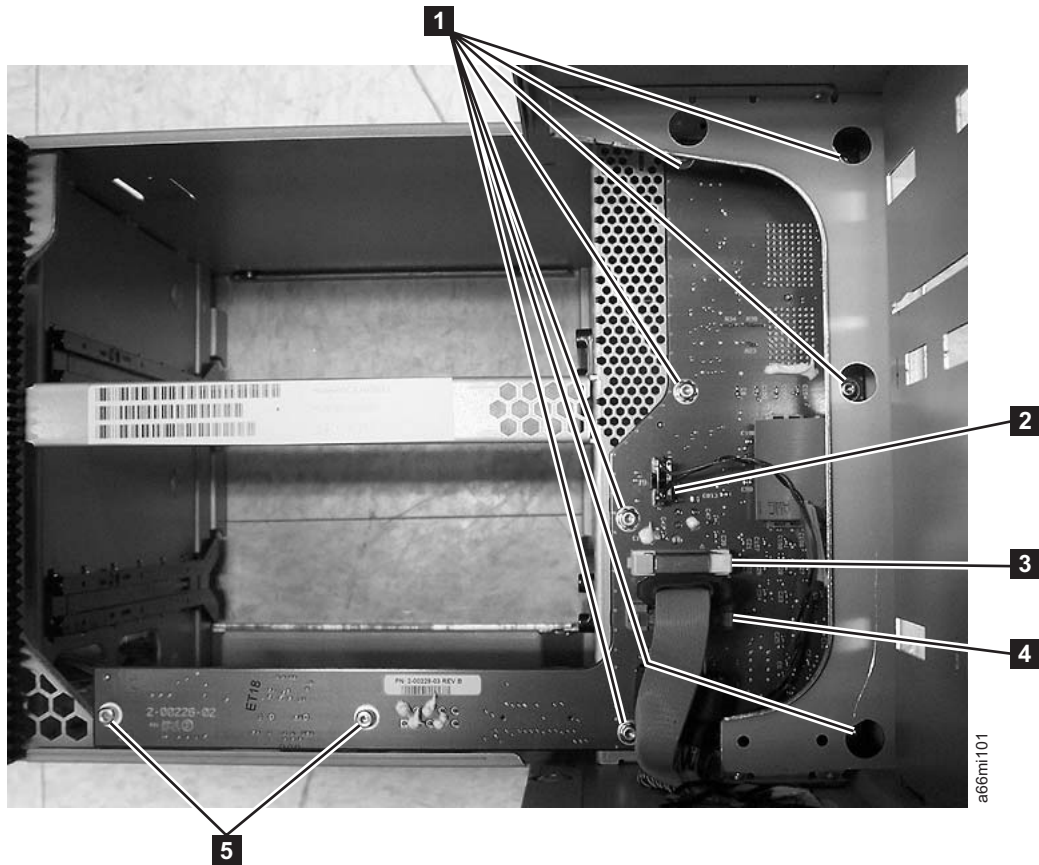

Figure 8-62. Backplane Connector Board (BCB), Front View
- c. Unplug cable connectors J9 (see **2** in Figure 8-62 on page 8-65), J16 (see **3** in Figure 8-62 on page 8-65), and J15 (see **4** in Figure 8-62 on page 8-65) from the BCB.
- a. Remove the 2 T8 Torx shoulder screws (**5** in Figure 8-62 on page 8-65) holding the lower part of the BCB.
- b. Remove the 7 T10 Torx screws (**1** in Figure 8-62 on page 8-65) holding the remainder of the BCB.
Tip: When installing the new BCB it is easier to start the board mounting screws (**1** and **5** in Figure 8-62 on page 8-65) if you first stand the control module enclosure on end.